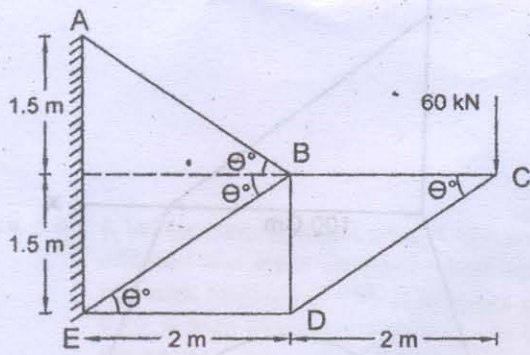

Fig. 7
- Que. 3.a Using method of joint, find forces in all the members with their nature for a truss shown in Fig.7. 07